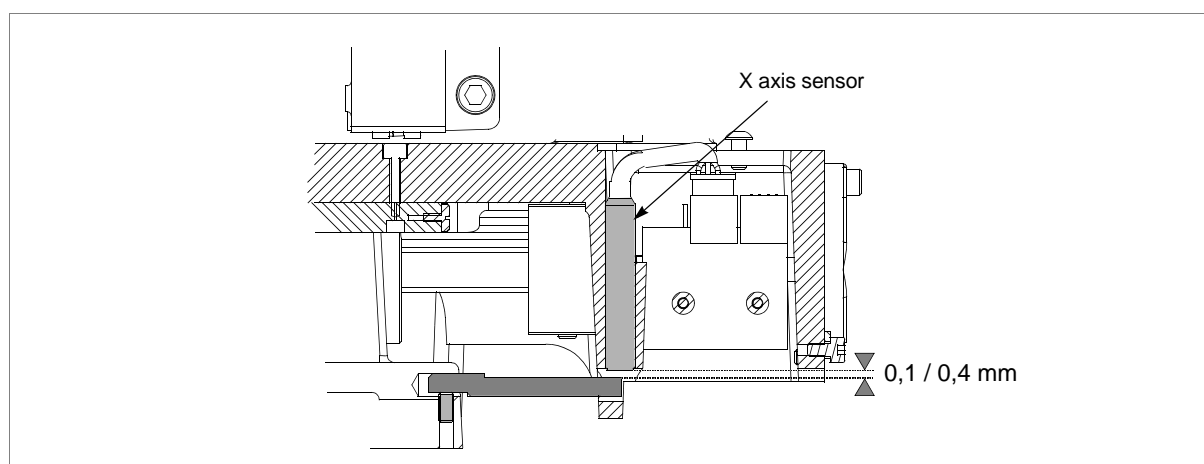

Fig. 82
- 7) remove the faulty sensor (M1) and replace with a new one, turning until it almost touches the underlying pin (fig. 82). Tighten the grub screw (M2).
- 8) connect the sensor connector (J).